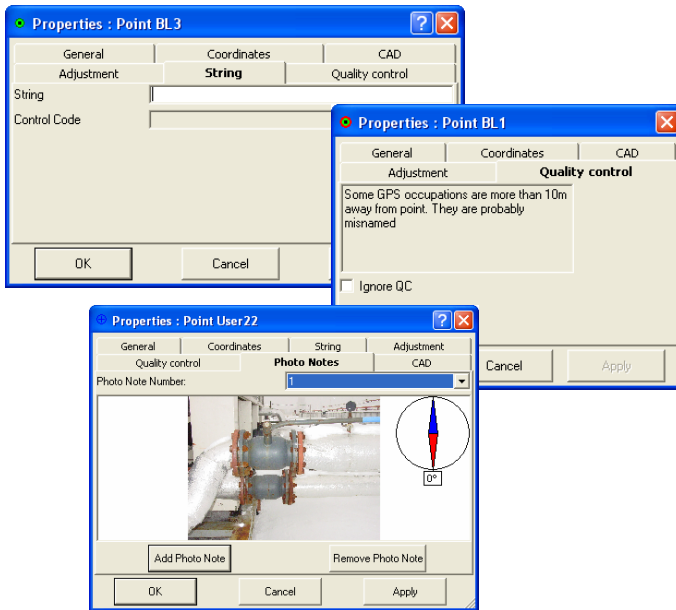

Figure 5-98. String, Quality Control, and Photo Notes Properties
6. The *Strings* tab edits the first string and displays the control code for the point (Figure 5-98 on page 5-68).
7. View *Quality Control* tab contains informational text on selected points (marked in red on the views) that did not pass some of the quality control checks (Figure 5-98 on page 5-68). To turn off the feature that marks a point red when it fails some quality control tests, select the *Ignore QC* check box.
9. The *Photo Notes* tab (Figure 5-98 on page 5-68) displays the image(s) per the point. It is possible to add image(s) for the point.